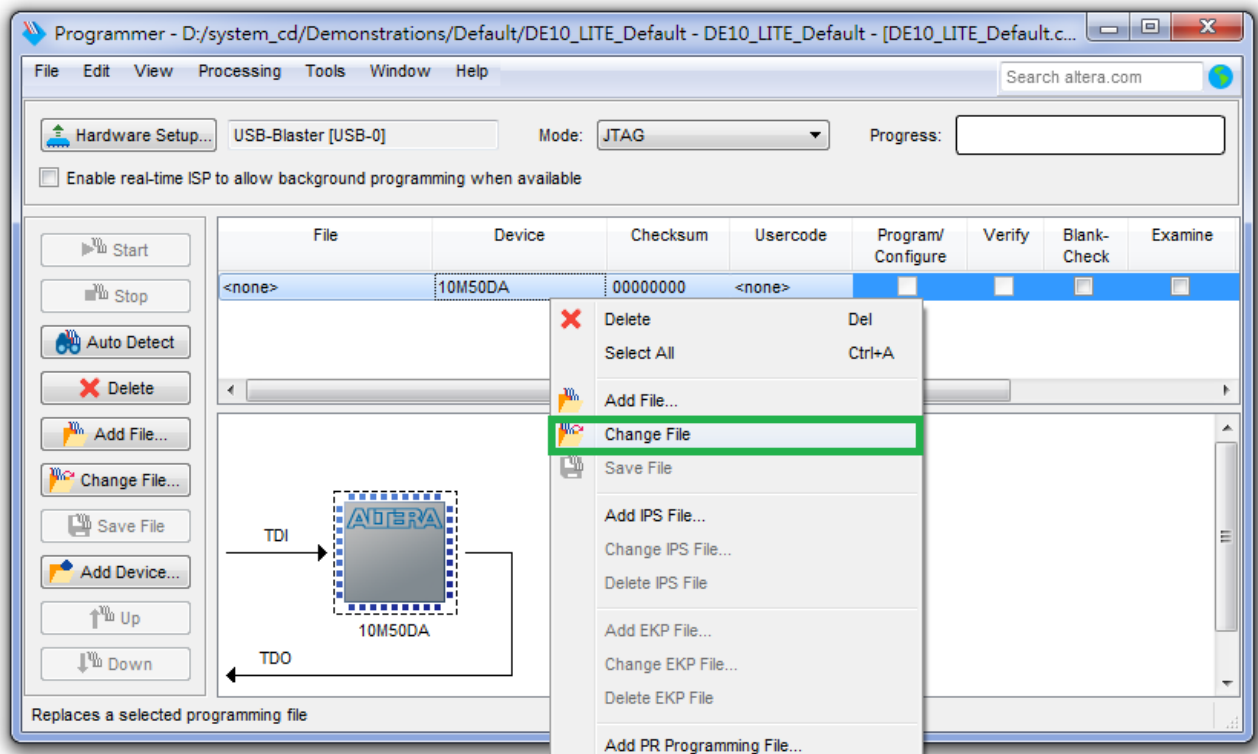

Figure 3-7 Open the .sof file to be programmed into the FPGA device
7. Right click on the FPGA device and click “Change File” to open the .sof file to be programmed, as highlighted in **Figure 3-7**.